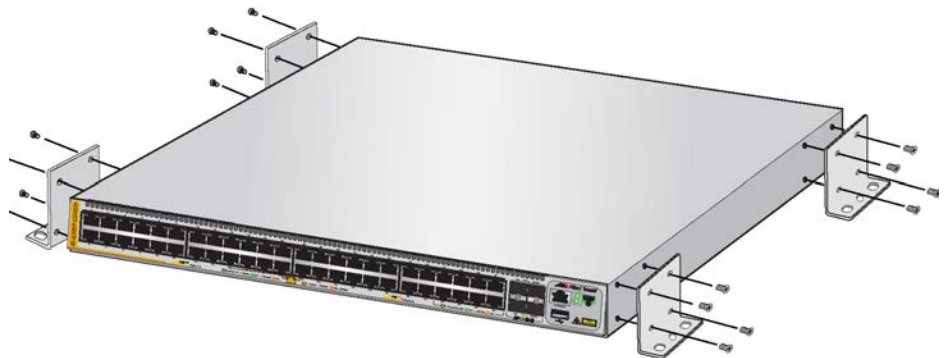

Figure 7. Installing Brackets on the Switch
3. After attaching the brackets, have another person hold the switch on the plywood base on the wall while you secure it with the M4x32.3mm screws included with the switch. Refer to Figure 7 for the switch.
2. Install four wall/equipment rack brackets to the sides of the unit with the sixteen M4x6mm screws included with the switch. Refer to Figure 7 on page 85.